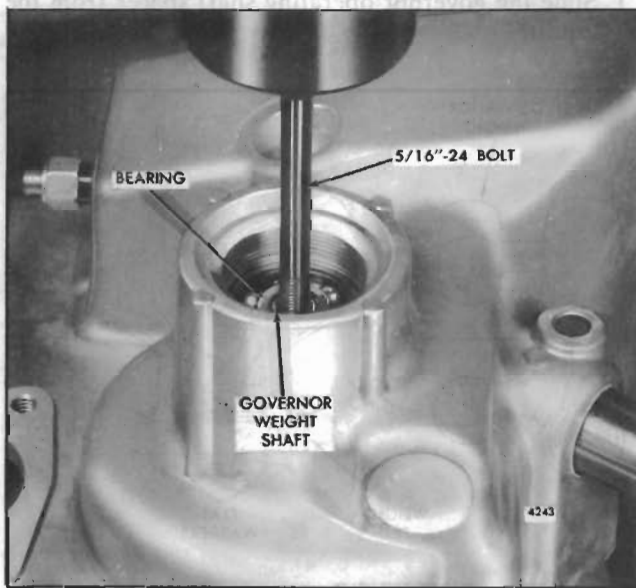

Fig. 8 - Removing Governor Weight Shaft Assembly from Governor Housing
- d. Thread a 5/16\"-24 x 3\" bolt into the bearing retaining bolt hole. Support the governor housing on the bed of an arbor press and press the governor weight shaft from the bearing as shown in Fig. 8.